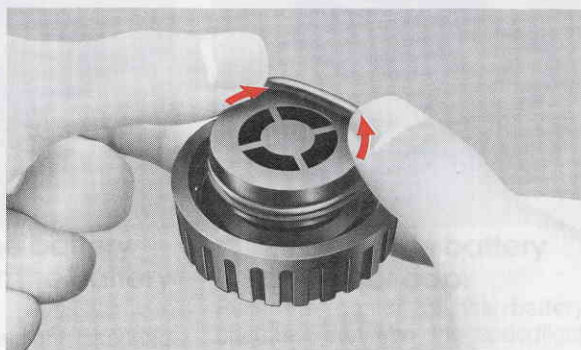
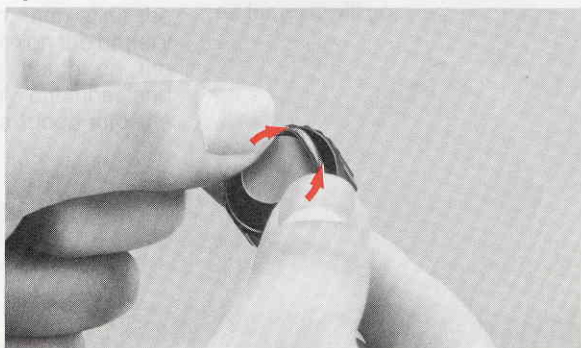

Fig. 3
Fig. 4
6. Reseat all of the O-rings with your fingertips by inserting one side of the ring into the channel and holding it in position while rolling the other side of the ring into place (see Fig. 3). To insert the O-ring into the channel of the synchro socket cover, push up on the center of the cover with a fingertip (or pointed object), place the ring over the channel, then press it down into place. Check that the O-ring is not twisted and that each of its edges is properly seated (see Fig. 4).